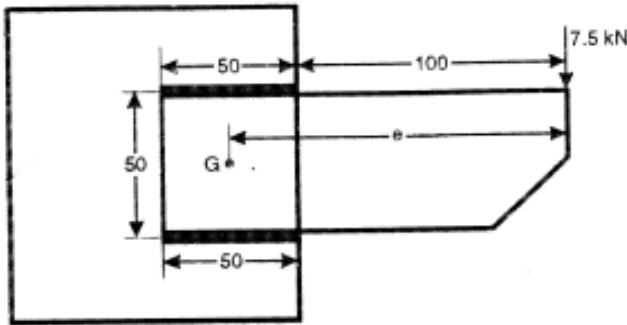

Fig. 1
b) A welded connection as shown in Fig. 1 is subjected to an eccentric load of 7.5 kN. Determine the size of welds if permissible shear stress for weld is  $100 \text{ N/mm}^2$ . 8